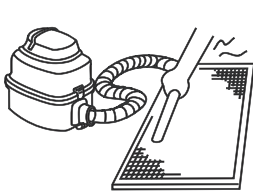

Fig.6-3
- The air-in side should face up when using vacuum cleaner. (See Fig. 6-3)